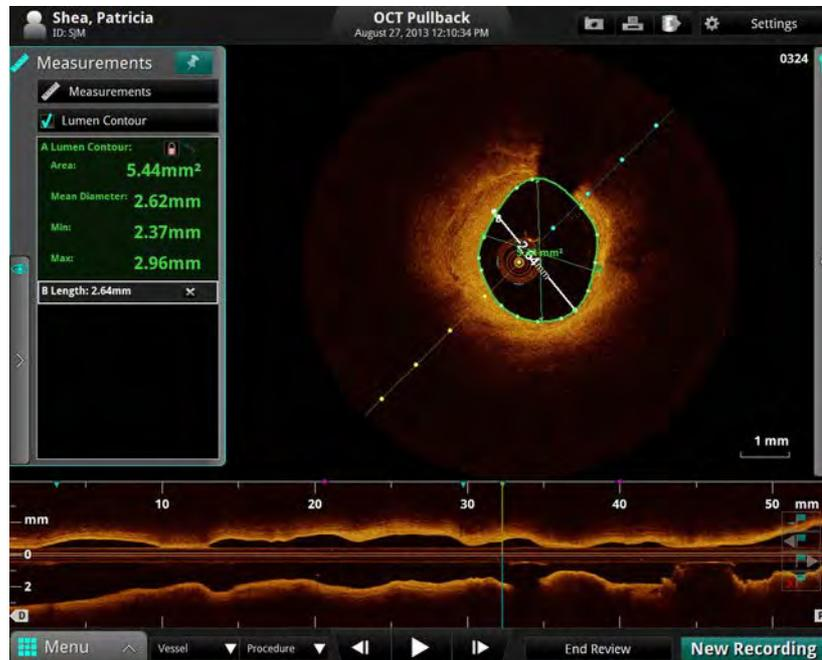

Figure 7-2: Length Measurement
2. Click on the **Length** button (Figure 7-2). The cursor changes to a pen.